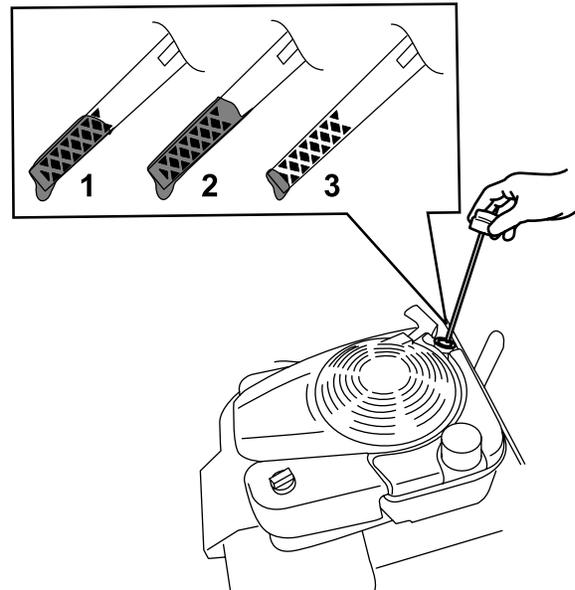

Figure 29
3. Remove the dipstick by rotating the cap counterclockwise and pulling it out (Figure 29).
- Read the oil level on the dipstick (Figure 29).